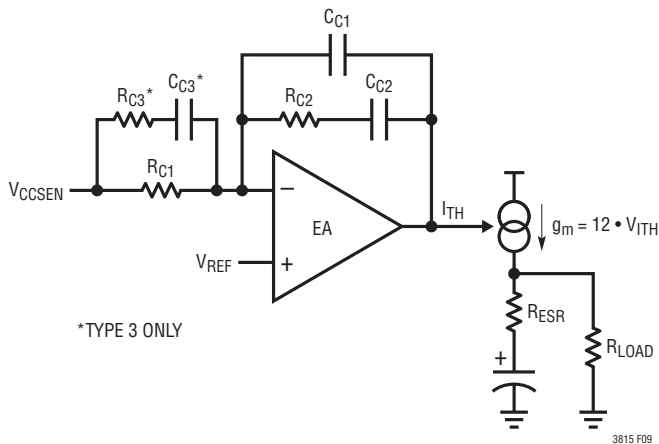

Figure 9. PSPICE Model of a LTC3815 Current Mode Regulator
very different than the one specified in the application circuits or if a Type 3 compensation network is required. A Type 3 compensation network includes the additional components R_{C3} and C_{C3} shown in Figure 9.
- 2) Plot Gain and Phase of the modulator and output filter. The modulator and output filter is the portion of the loop from the error amp output (I_{TH}) to the regulator output (V_{OUT}). To do this, insert a 10Ω to 50Ω resistor between the output capacitor and the V_{CCSEN} pin (this is R7 on the DC2065 demo board). Then use a network analyzer to inject an AC signal across this resistor and plot the Gain and Phase. If a network analyzer is not available, a close approximation can be obtained with a PSPICE simulator using the LTC3815 power supply model shown in Figure 9. The error amplifier EA can